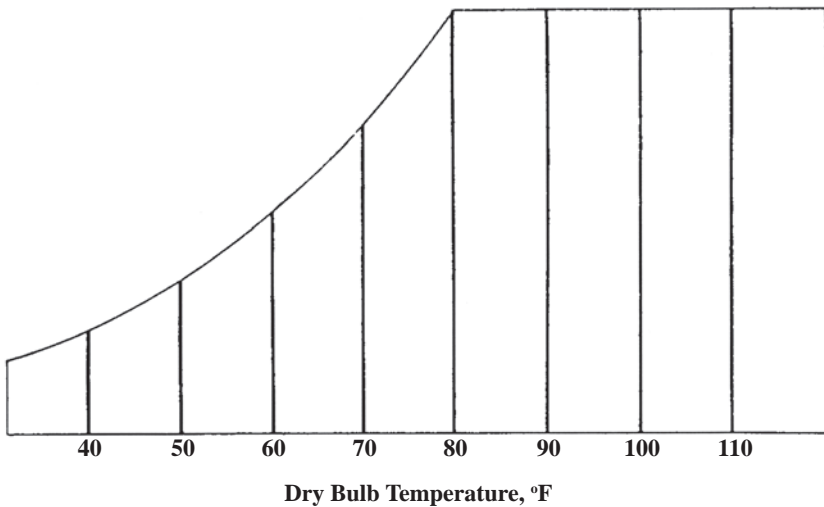

Figure 2. Dry bulb temperature lines.
1. **Dry bulb temperature** is the air temperature determined by an ordinary thermometer. Dry bulb temperature is given in weather reports. The dry bulb temperature scale is located at the base of the chart. Vertical lines indicate constant dry bulb temperature (*Figure 2*).